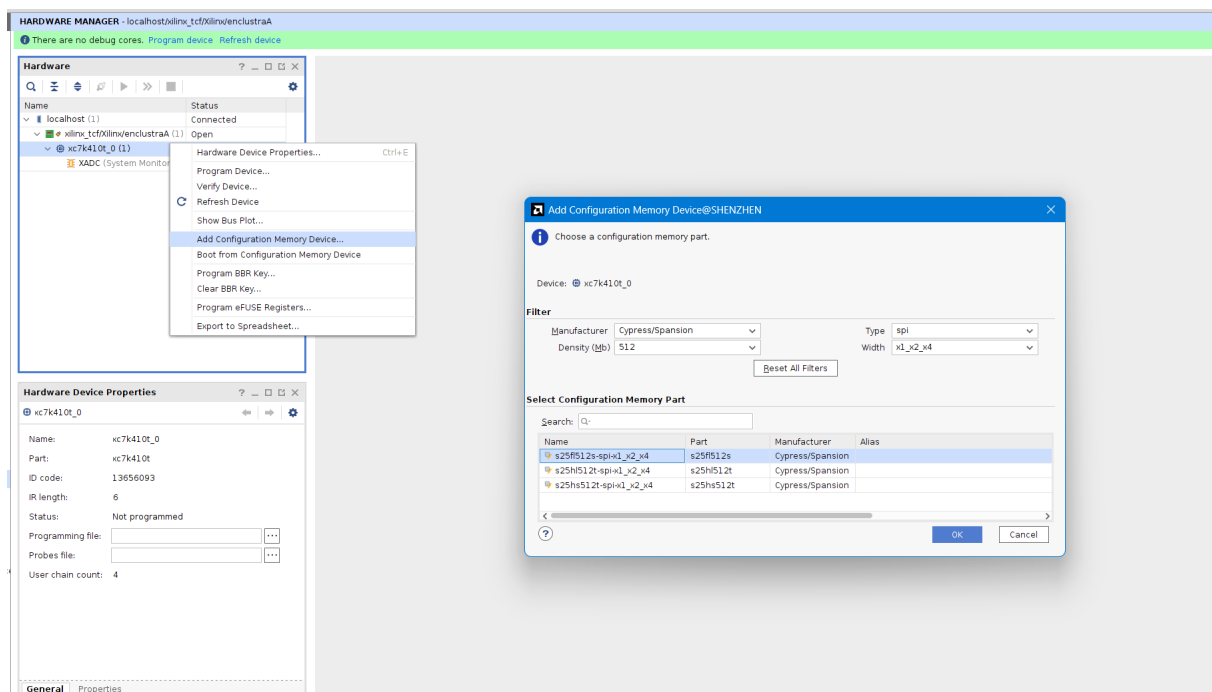

Figure 5: Example Dialog Vivado Configuration Memory (QSPI)
3. Select **Open target > Auto Connect**. The hardware manager should be able to connect to the device as shown in Figure 5.
4. Right-click the FPGA and select **Add Configuration Memory Device....** A dialog as the one shown in Figure 5 appears.